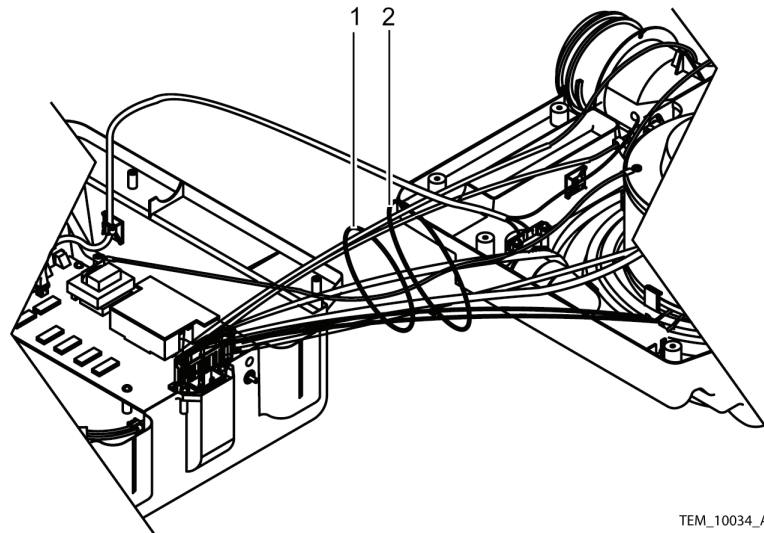

Figure 37. Cable Harness Ties
13. Install the cable harness bundle ties. See Figure 37, item 1.